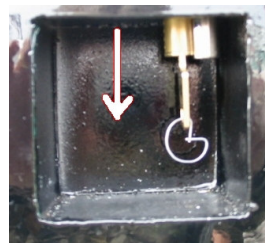

Fig. 5
5. Once the key and cylinder drops down (fig. 5.), rotate the key to the left 90 degrees and pull the key out. Lock enclosure in reverse order, making sure the cylinder goes all the way up into the lock assembly; lock cylinder will be slightly recessed into the lock housing when seated correctly.